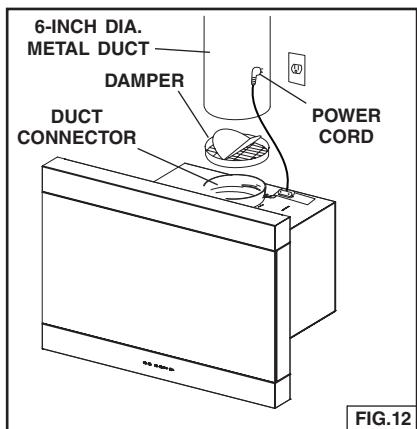

FIG.12
1. Press the damper into the duct connector on the hood. Fig. 12.